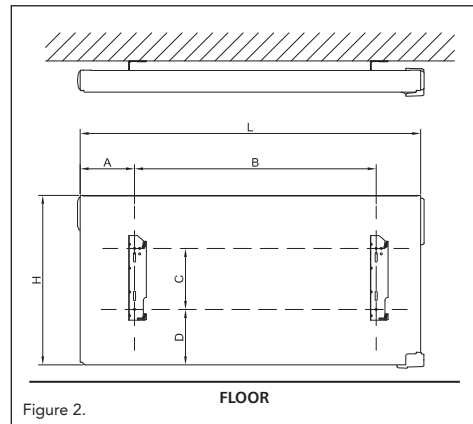
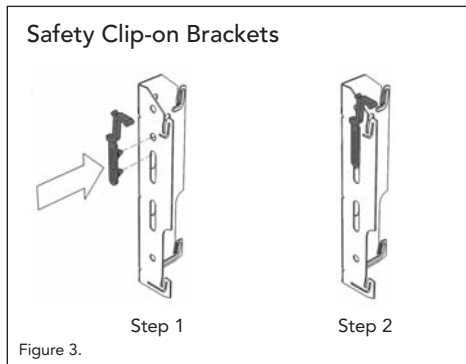

Figure 2.
Figure 3.
- Mark out the distance between the brackets and the positions for the screw holes as shown in figure 2 and the dimension tables at the top of page 7, and ensure the safety clips are used (see figure 3).
**Electrorad Digi-Line Single Panel (refer to figure 2)**
**Electrorad Digi-Line Double Panel (refer to figure 3)**